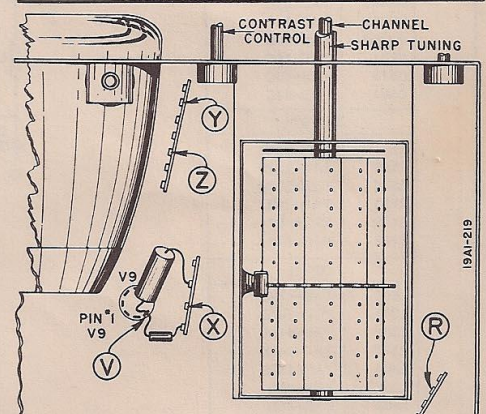

FIGURE 29. BOTTOM VIEW CHASSIS SHOWING ALIGNMENT CONNECTION POINTS
- Alignment adjustments, connection points, and response curve are shown in figs. 29, 31, 32.
- Alignment adjustments, connection points, and response curve shown in figs. 29, 32, 33, 34.
are shown in figures 29 and 30.